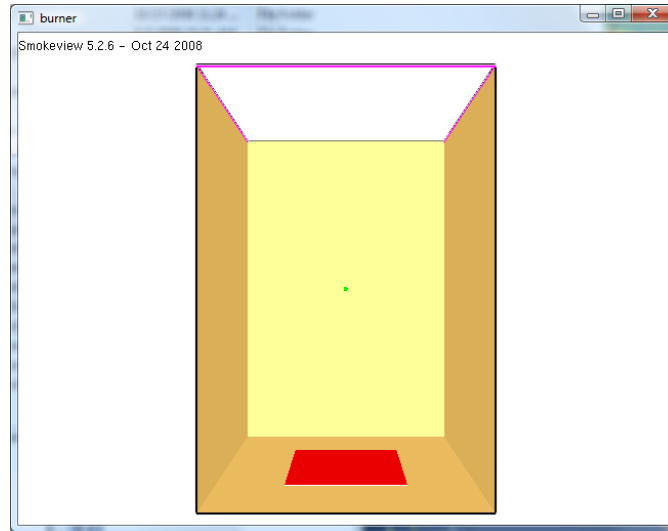

Figure 3.8. The initial Smokeview display.
5. When the simulation is complete, Smokeview will start and display a 3D still image of the model, Figure 3.8..